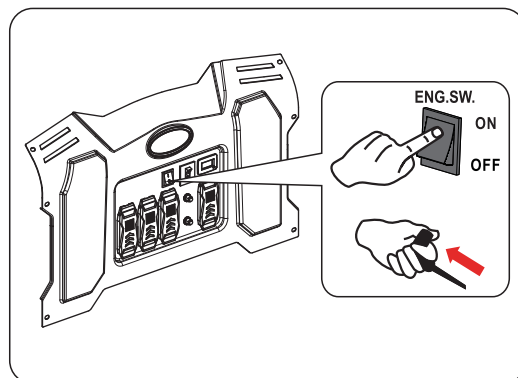

Fig 11 Recoil Start
- For manual start, turn the engine ON/OFF switch to the “ON” position. Pull the recoil handle (starter cord) slowly until resistance is felt, then pull rapidly. (See fig 11)